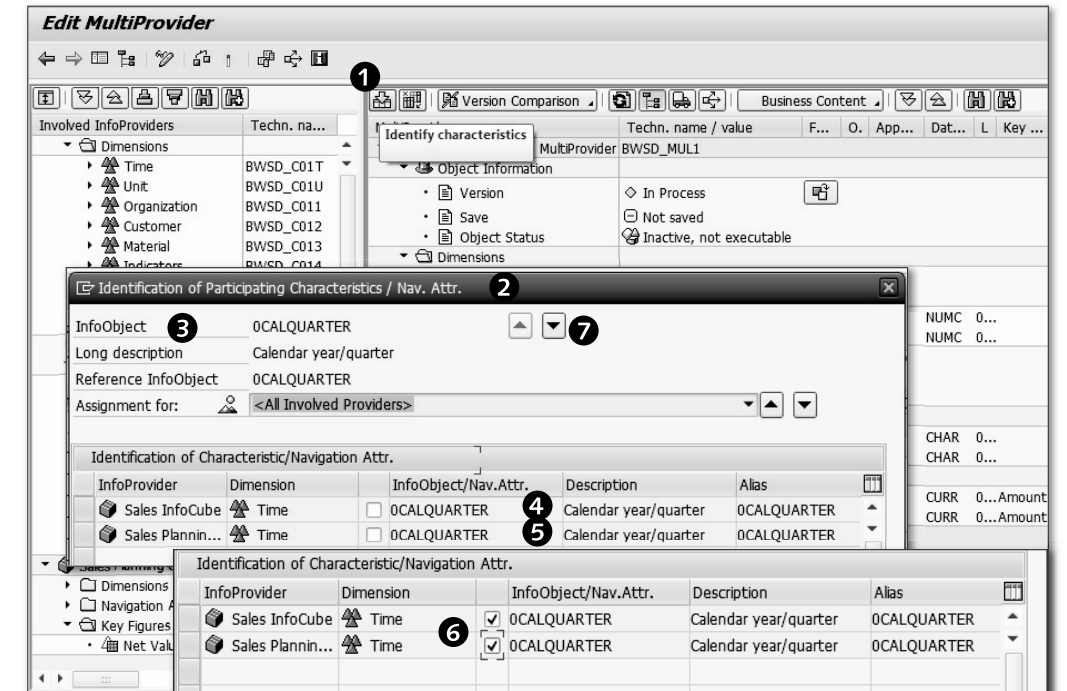

Figure 6.10 Edit MultiProvider: Identifying Characteristics
Click on the IDENTIFY CHARACTERISTICS icon, as shown in ❶ of Figure 6.10. The IDENTIFICATION OF PARTICIPATING CHARACTERISTICS/NAV. ATTR. box appears ❷. It shows each characteristic included in the MultiProvider and offers the matching characteristics or navigation attributes available from the included InfoCube.